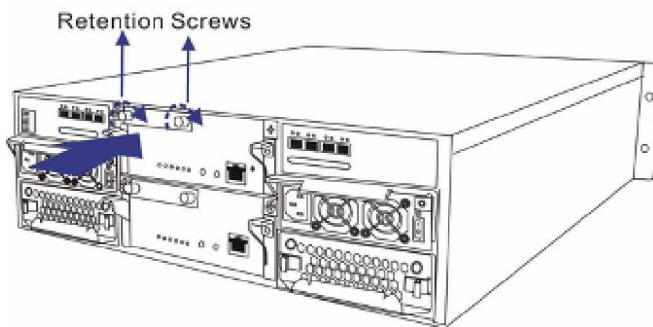

Figure 5-11: Fastening the BBU Retention Screws
Step 3. *Secure the BBU to the subsystem* by fastening the two (2) retention screws on the back of the BBU. (See **Figure 5-11**)